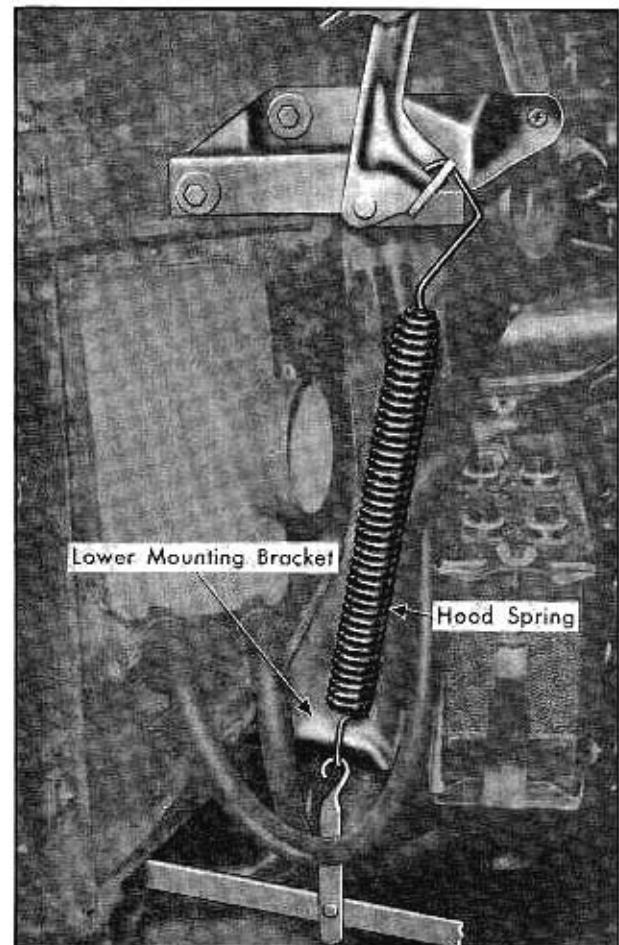

Fig. 4-5 Removing Hood Spring
2. Using a pry bar of sufficient length to provide ease of leverage, and a strong wire or hook attached to the bar as shown in Fig. 4-5, place bar under frame, below hood spring, and engage hook or wire on lower loop of hood spring.